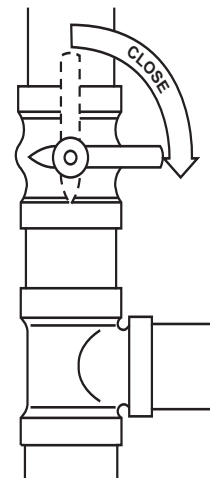

Fig. 7 – Close Valve
2. Close the external manual gas valve (see Fig. 7).